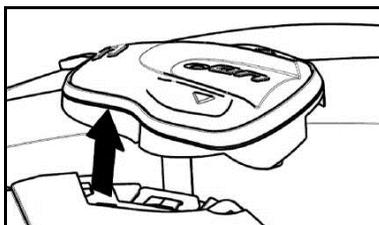

Fig. 22
- Rotate the keypad in a counterclockwise direction (Fig. 22).